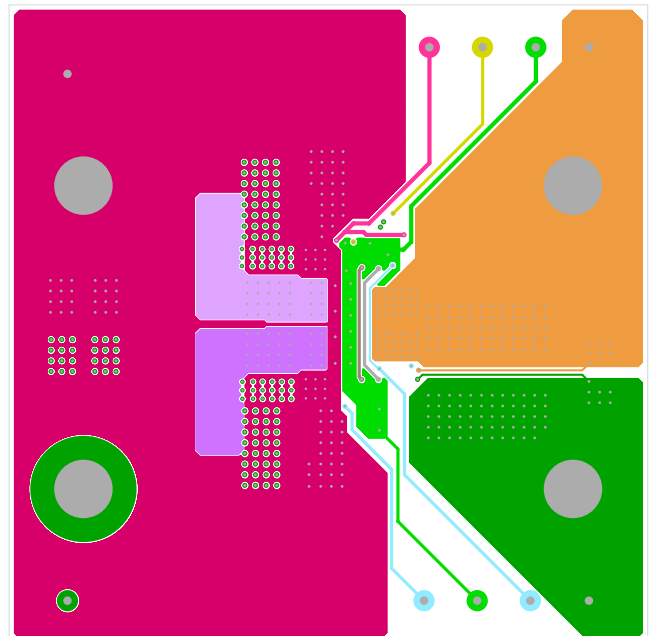

FIGURE 6. LAYER 3
2. Phase 1 and Phase 2 pads are switching nodes that generate switching noise. Keep these pads under the module. For noise-sensitive applications, it is recommended to keep phase pads only on the top and inner layers of the PCB; do not place phase pads exposed to the outside on the bottom layer of the PCB. To improve the thermal performance, the phase pads can be extended in the inner layer, as shown in Phase 1 and Phase 2 pads on layer 3 (Figure 6) for this 30A evaluation board. Make sure that layer 2 and layer 4 have the GND layers to cover the extended areas of phase pads at layer 3 to avoid noise coupling.